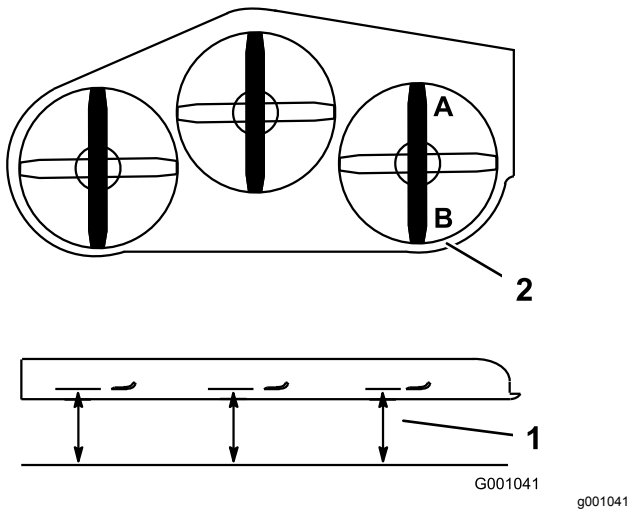

Figure 101
1. Position the **right** blade front-to-rear (Figure 101).
2. Measure the right blade at the **A** location, from a level surface to the cutting edge of the blade tip (Figure 101).
4. Measure the right blade at the **B** location, from a level surface to the cutting edge of the blade tip (Figure 101).
6. The mower blade should be 6 to 10 mm (1/4 to 3/8 inch) lower at position **A** than at position **B** (Figure 101). If it is not correct, proceed to the following steps.